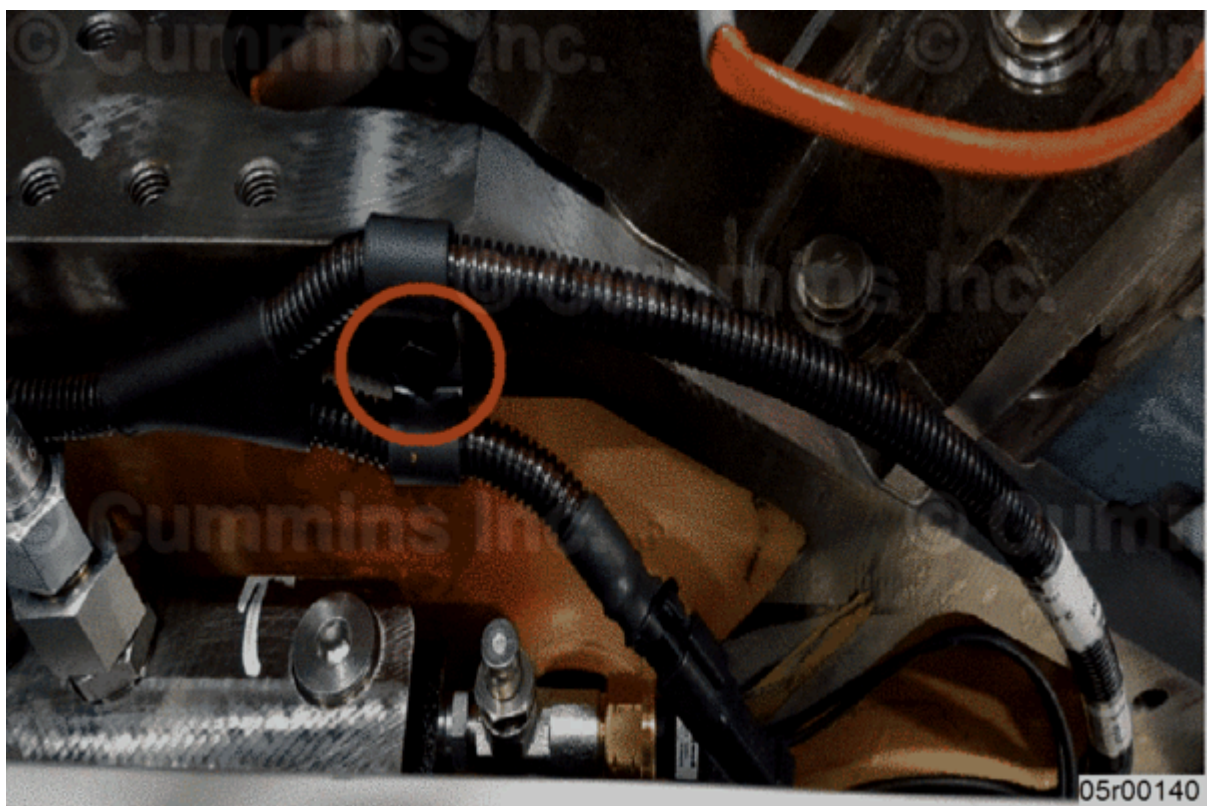

Figure 2, Connection at Existing Oil Pressure Switch Plug.
1. Connect existing oil pressure switch plug. Use Part Number 3903990. See Figure 2.